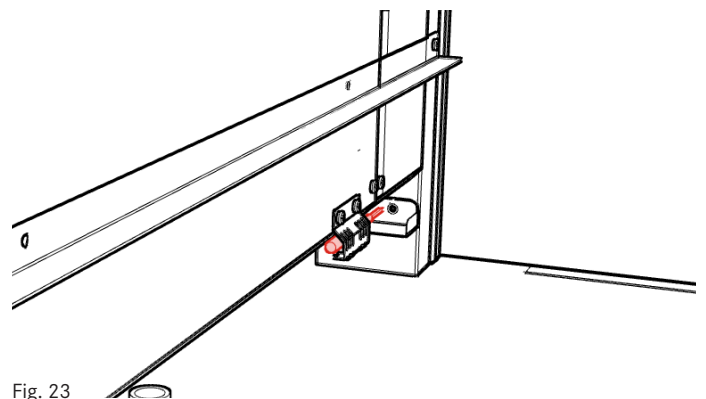

Fig. 23
3. Locate air temperature sensor behind sensor guard at bottom of evaporator module (Fig. 23).